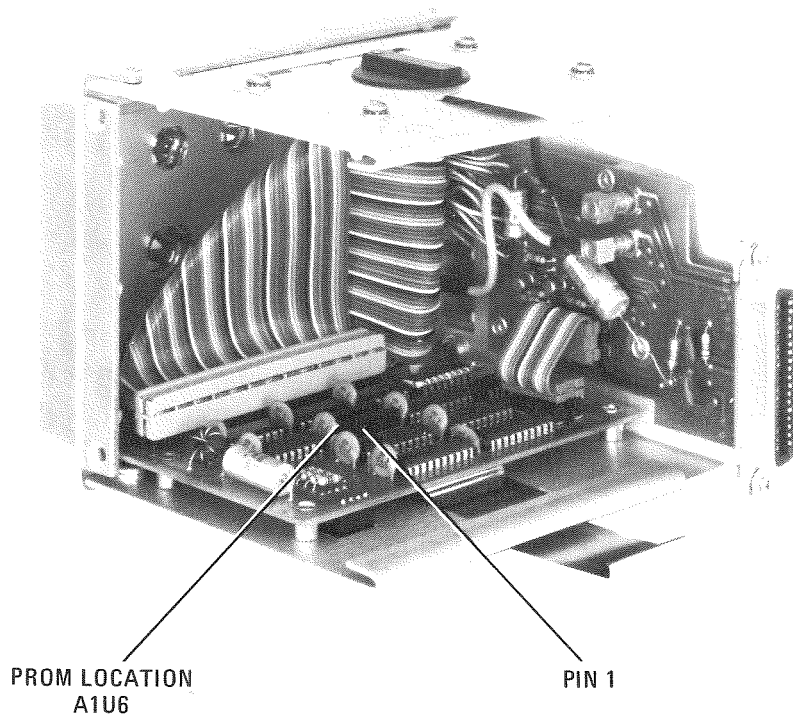

Figure 2-3. Installation of RF Plug-in PROM into 11869A
- g. At the top of the 11869A, set the four rocker switches to the code that corresponds with the 86200 Series RF Plug-in that is being used. If the exact model number is not in the list above the rocker switches, the RF Plug-in is a "SPECIAL" (example: 86260B, 86260C, 86260A Option H22, etc.) and the switches must be set at 1111. Also, the appropriate PROM must be installed in the 11869A A1 Logic Board in position A1U6. See Figure 2-3 for installation instructions for the PROM.